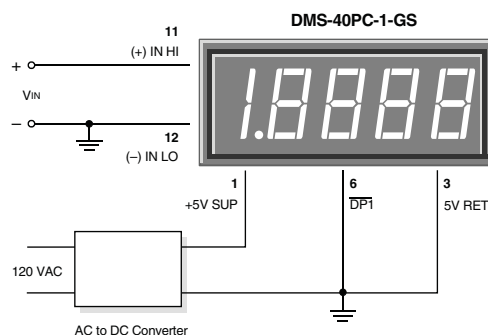

Figure 2. Single-Ended Input Configuration
1. Single-Ended Input Configurations: The DMS-40PC can measure single-ended signals with either positive or negative polarities. True single-ended inputs always have one of their two terminals at the same potential as the DMS-40PC's 5V RETURN (pin 3). Single-ended inputs are usually derived from power supplies that have a common ground with the meter's +5V supply. Figure 2 shows the recommended connections to be used with this type of input. Pin 12, (–) INPUT LO, is shown directly tied to ground. This connection to ground must be a separate wire or pc-board trace originating at V_{IN} 's negative terminal. This hook-up will normally eliminate display instabilities and errors caused by ground-loop currents which can occur if (–) INPUT LO is tied to ground at, or near, pin 3.